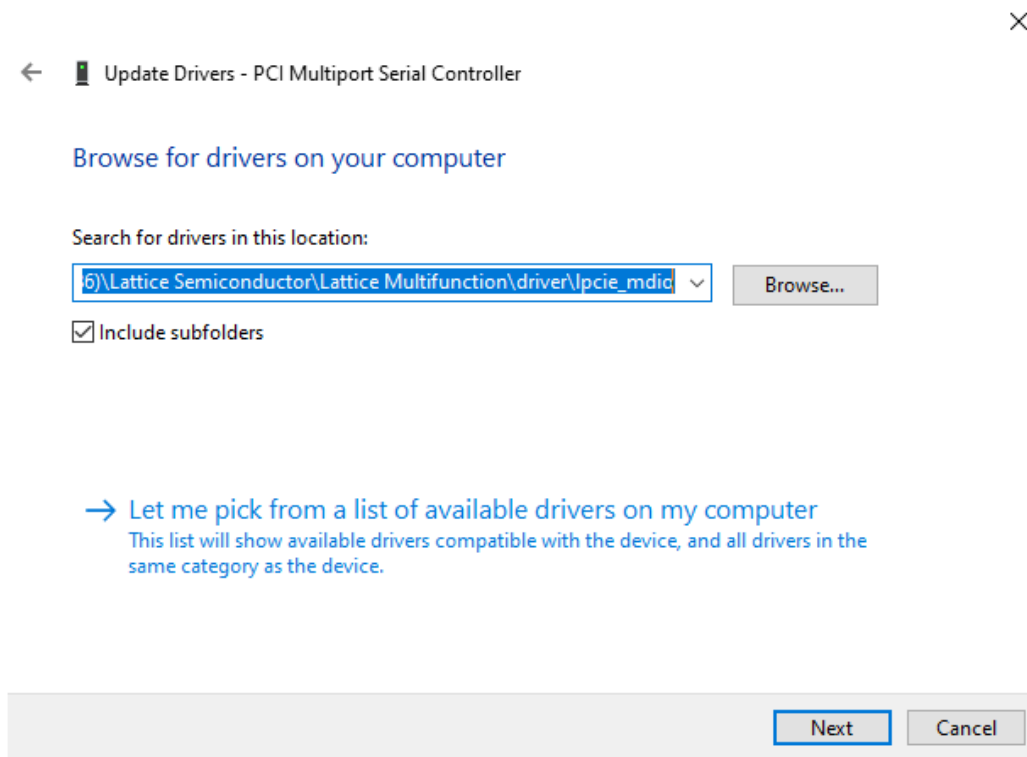

Figure 5.48. Browse the Driver for Device
6. Browse for the MDIO device drivers as shown in Figure 5.48. For the CertusPro-NX device board, browse for I2C or GPIO driver.